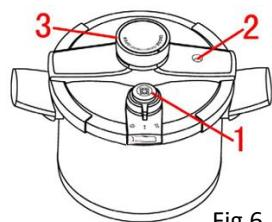

Fig.6
※ Using our products to feel at ease, we designed and equipped multi-device for safety. (Fig. 6)
2. Setting multi-device ensures pressure cooker working normally. (Fig. 6)